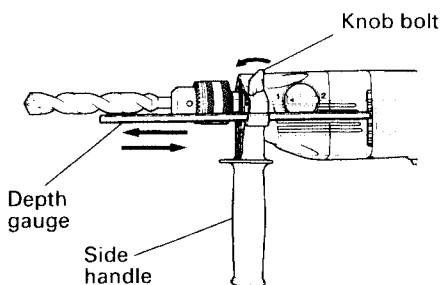

Fig. 6
**8. Fixing the side handle (Fig. 6)**